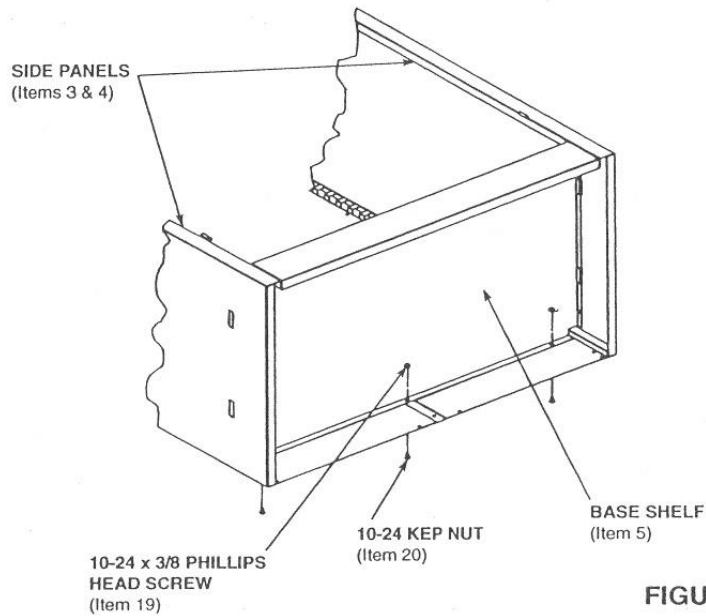

FIGURE 4
Insert the base shelf (Item 5) into the unit and slide it into place. Lock the base shelf into the lances at the bottom of each side panel and align the three (3) slots on rear flange of shelf with the three (3) holes in the back. Secure together with three (3) 10-24 X 3/8 Phillips head screws (Item 19) and three (3) 10-24 Kep nuts (Item 20). See Fig. 4.